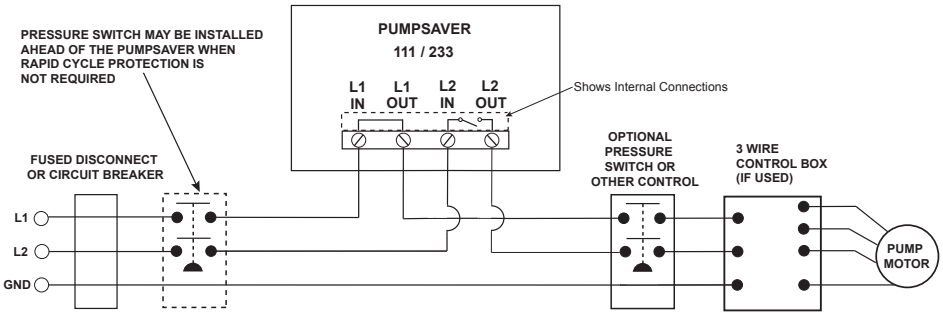
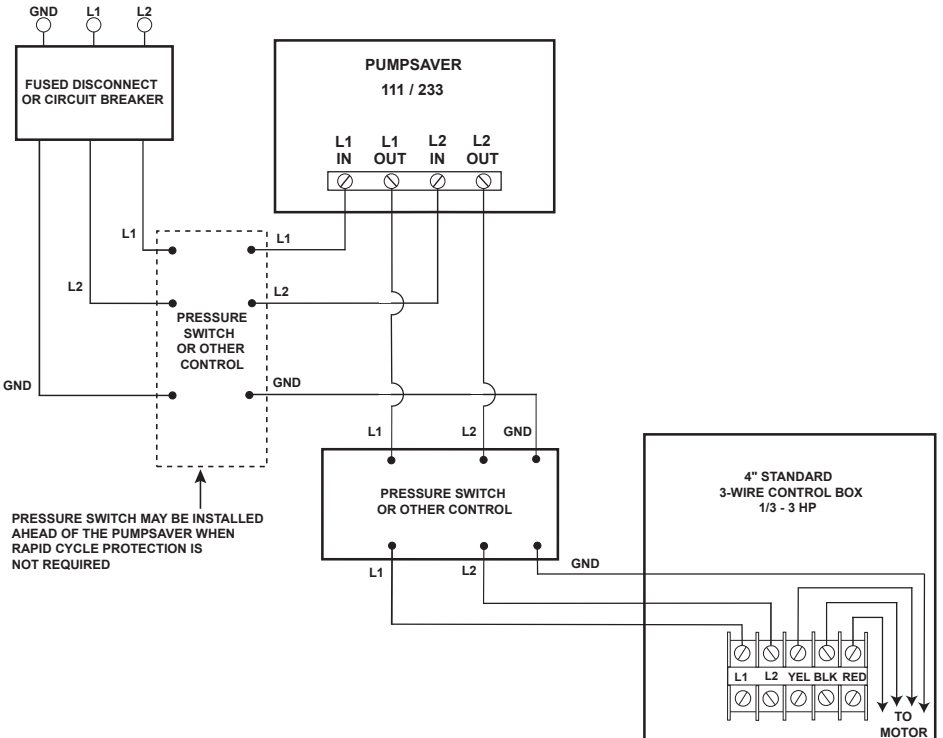
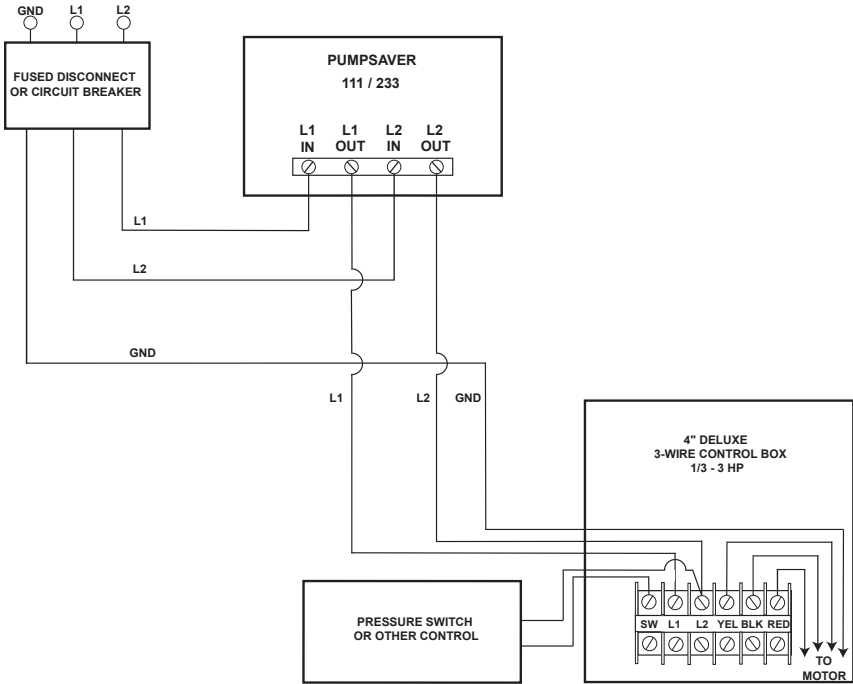
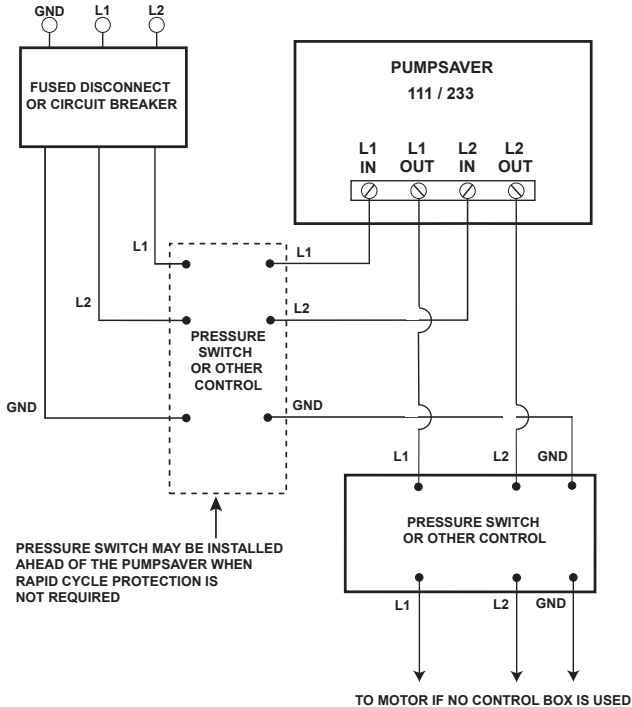

Figure No. 1: Typical Wiring Diagram for Models 111 and 233
Figure No. 2: Standard Control Box
Figure No. 3: Deluxe Control Box
Figure No. 4: 2-Wire Pump Application
2. Connect one line from the fused disconnect to the PumpSaver's "L1 IN" terminal. Run a wire from the "L1 OUT" terminal to the other in-line controls such as a pressure switch. See Figure No. 1.
3. Connect the other line from the fused disconnect to PumpSaver's "L2 IN" terminal. Run a wire from the "L2 OUT" terminal to the other in-line controls such as pressure or float switches. See Figure No. 1.
4. See Figure No. 1 for Electrical diagram. See Figure No. 2 for Mechanical wiring diagram for standard 3 wire control boxes. See Figure No. 3 for Mechanical wiring diagram for Deluxe control boxes. See Figure No. 4 for Mechanical wiring diagram for direct feed of 2-wire pumps.